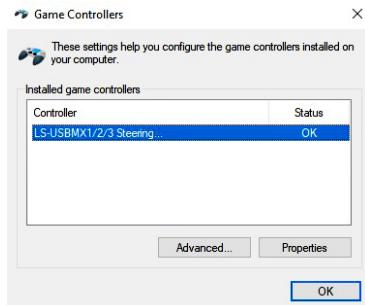

Fig. 5
- In «control panel» menu, then click on «devices and printers», icon, in the window that opens, select «LS-USBMX 1/2/3 Steering Wheel W/Vibration», short-cut, right-click on «Game controllers settings» (Fig. 5).